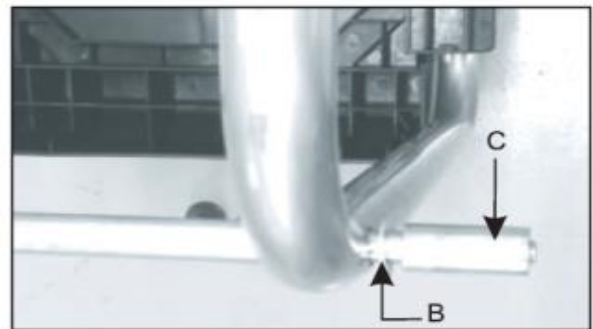

Fig.1B
3. Put the supplied washer (B) and sleeve (C) onto the wheel axle (Fig. 1B)